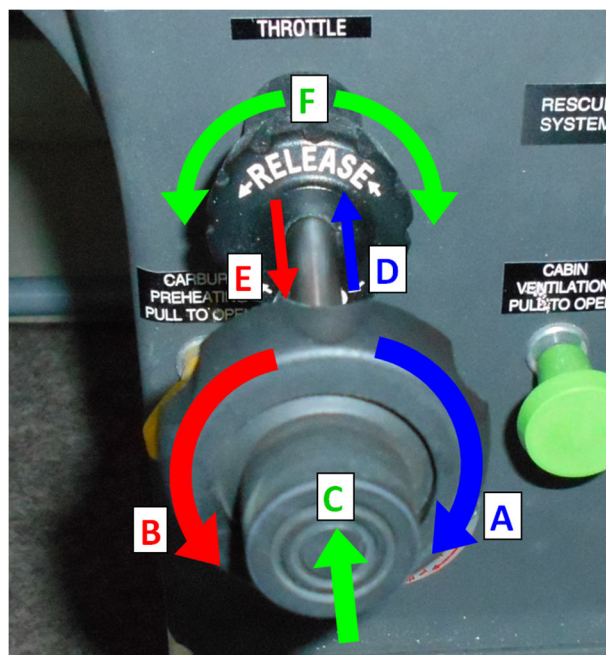

Fig. 7-15 Throttle controller
The throttle control labelled **THROTTLE** is a black knob installed in the center console (Fig. 7-15). It is configured so that the throttle is opened in the forward position and closed in the full aft position. Throttle control is operated by rotating the knob in clockwise direction for increase (A) or counter clockwise for decrease (B) of engine speed. For rapid or large adjustments the knob may be moved forward for increase (D) or backward for decrease (E) of engine speed by depressing the lock button (C) at the end of throttle control and then re-positioning the throttle control as desired.